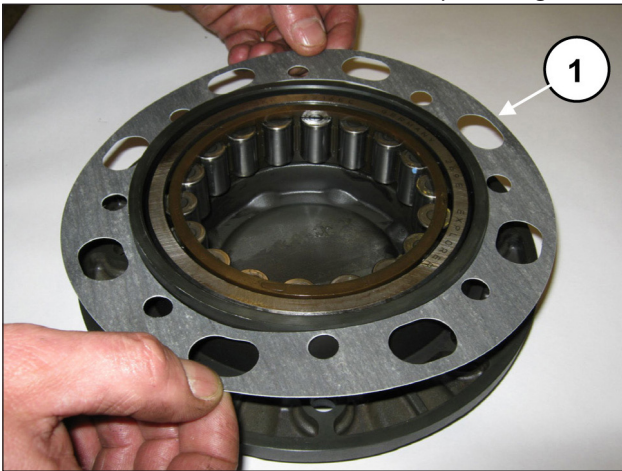
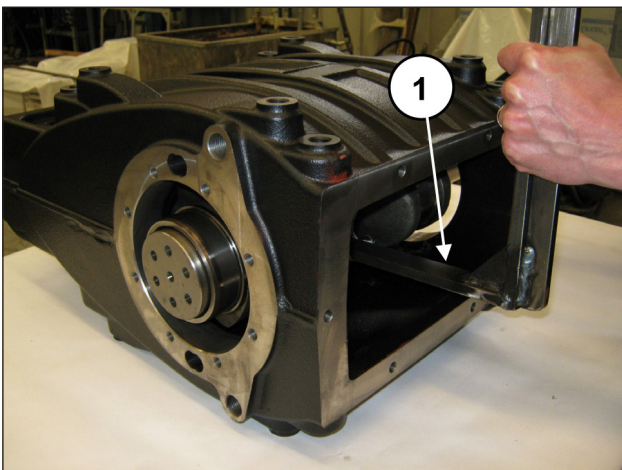

Fig. 57
Fig. 58
Insert the side seal on the bearing cover (pos. ①, Fig. 57) and lift the bend shaft to favour cover insertion (pos. ①, Fig. 58).